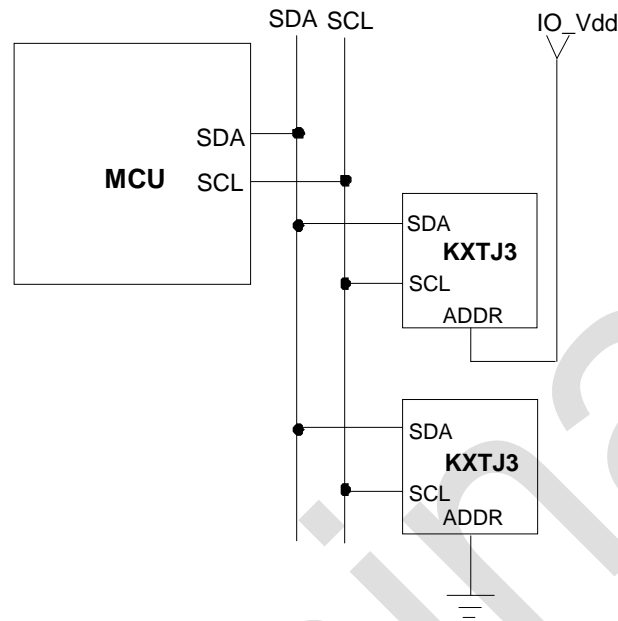

Figure 1. Multiple KXTJ3 I²C Connection
Transactions on the I²C bus begin after the Master transmits a start condition (S), which is defined as a high-to-low transition on the data line while the SCL line is held high. The bus is considered busy after this condition. The next byte of data transmitted after the start condition contains the Slave Address (SAD) in the seven MSBs (Most Significant Bits), and the LSB (Least Significant Bit) tells whether the Master will be receiving data '1' from the Slave or transmitting data '0' to the Slave. When a Slave Address is sent, each device on the bus compares the seven MSBs with its internally stored address. If they match, the device considers itself addressed by the Master. The KXTJ3's Slave Address is comprised of a programmable part and a fixed part, which allows for connection of multiple KXTJ3's to the same I²C bus. The Slave Address associated with the KXTJ3 is 000111X, where the programmable bit, X, is determined by the assignment of ADDR (pin 1) to GND or IO_Vdd. Figure 1 above shows how two KXTJ3's would be implemented on an I²C bus.